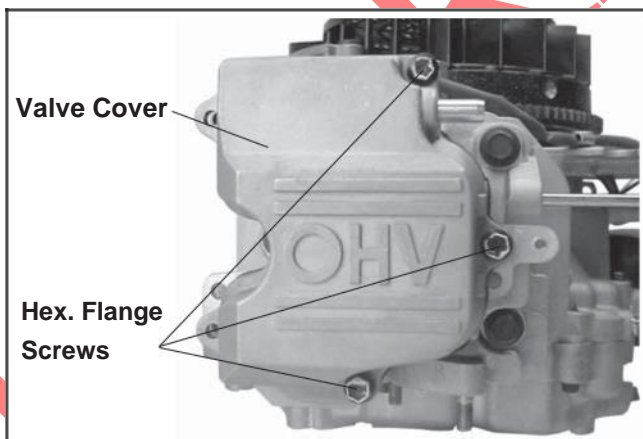

Figure 9-23. Removing Valve Cover.
1. Remove the remaining hex. flange mounting screws and any loose spacers (stamped steel covers) from the valve cover. Note their placement/orientation. Remove the valve cover from the cylinder head assembly. See Figure 9-23 and 9-24.